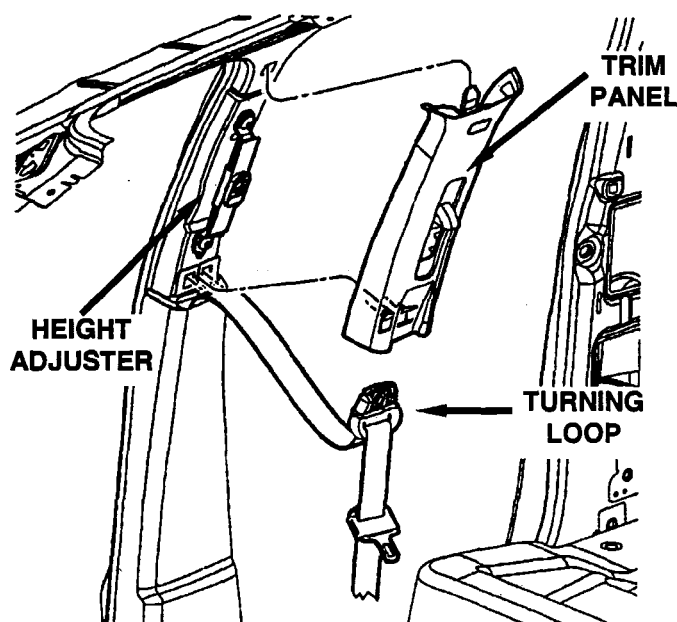

Figure 4
16. **For QUAD Cab Vehicles Only:** Remove the screw that secures the seat belt turning loop to the height adjuster (Figure 4).
17. **For QUAD Cab Vehicles Only:** Remove the upper B-pillar trim panel (Figure 4).
70. **For QUAD Cab Vehicles Only:** Install the **right** upper B-pillar trim panel (Figure 4).
71. **For QUAD Cab Vehicles Only:** Install the **right** front seat belt turning loop onto the B-pillar height adjuster (Figure 4).
72. **For QUAD Cab Vehicles Only:** Install the seat belt turning loop to height adjuster screw (Figure 4). Tighten the screw to 30 ft-lbs (39 N·m).